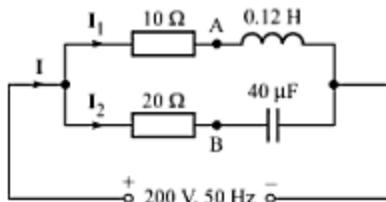

Fig. C-84
- C-140. Two circuits A and B are connected in parallel across 200-V , 50-Hz power mains, as shown in Fig. C-84. Calculate (a) the source current (b) the current in each branch, and (c) the power factor. Draw the phase diagram.